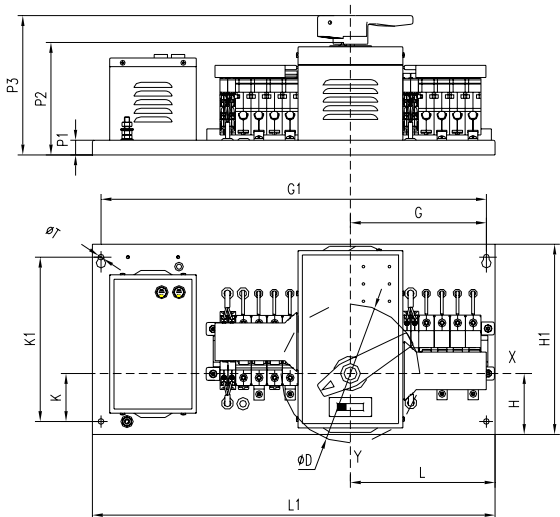
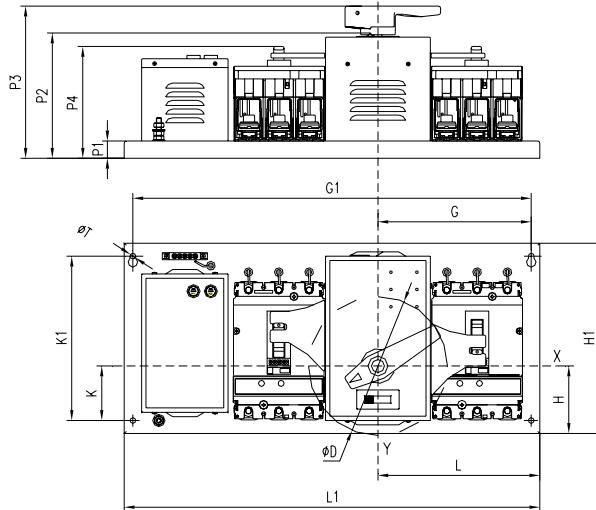

Fig . 2 ATNS63
Fig .3 ATNS 100/ 160 / 250 / 400/ 630
- For form and dimension of ATNS please refer to the Fig.2 , Fig.3 and Table 2